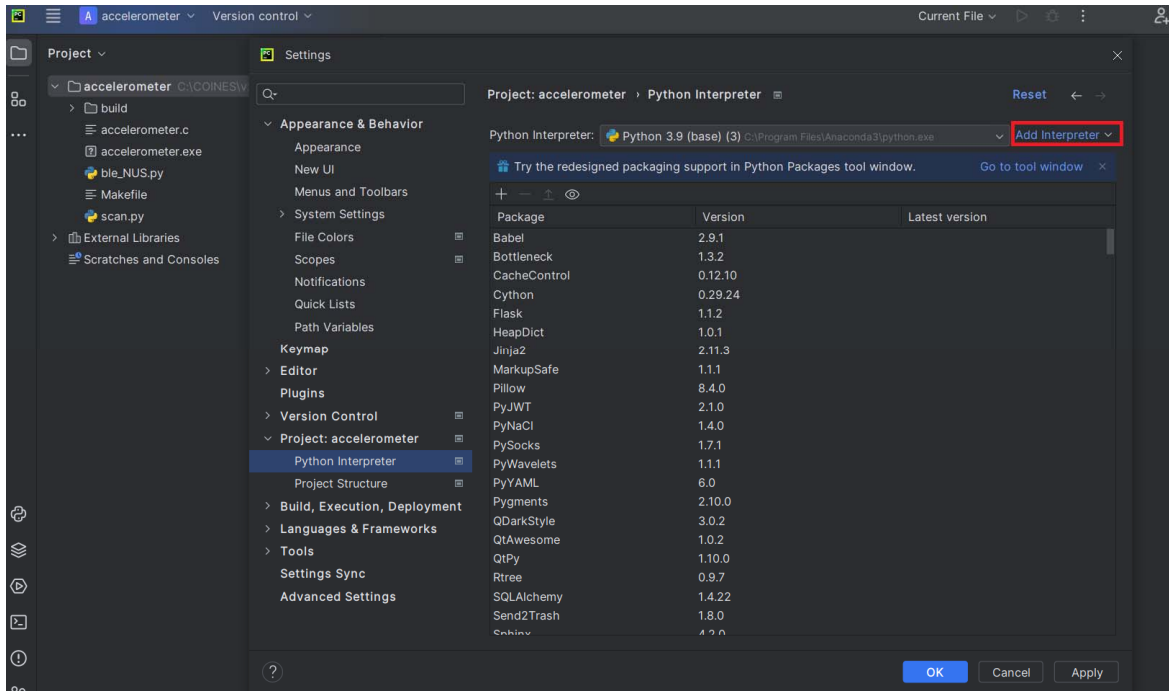
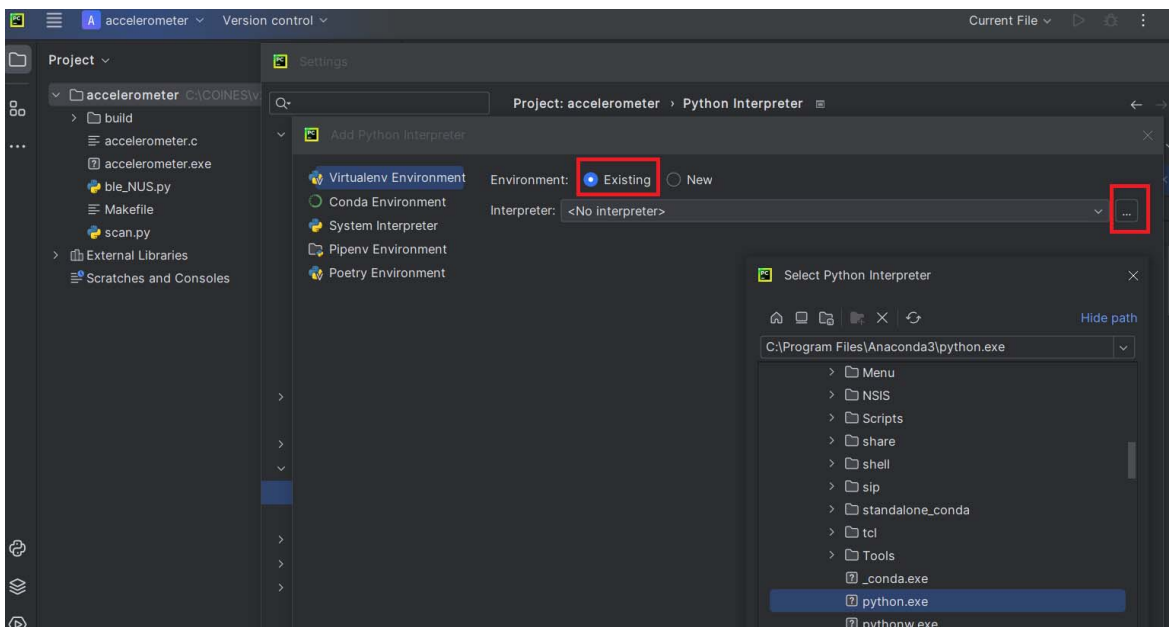

Figure 12 Add Python Interpreter 1 of 2
Figure 13 Add Python Interpreter 2 of 2
- If this is the first time setting up Python environment for PyCharm, Python Interpreter needs to be installed. Click menu “File -> Settings” and then click “Project: accelerometer -> Python Interpreter”. If there is no Python Interpreter listed, then click “Add Interpreter” in the red rectangle as shown in Figure 12. Note that Figure 12 already has Python Interpreter installed.
- In Figure 13 select “Existing” radio button and then click “...” button. Select “python.exe” and then click OK button. Users will see Figure 12 with Python Interpreter installed.